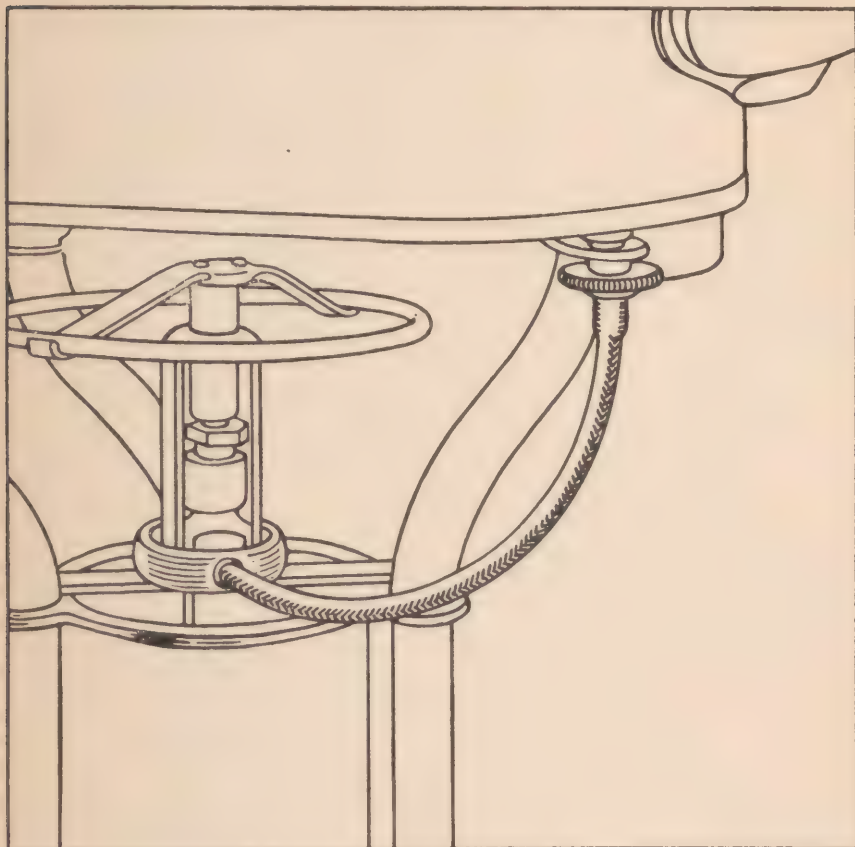

Figure 6. Direct connection oxygen cylinder to apparatus.
(3) *To connect oxygen cylinder.* (a) Insert the end of the flexible oxygen tube into the oxygen inlet on the bottom of the tester. (See fig. 6.)